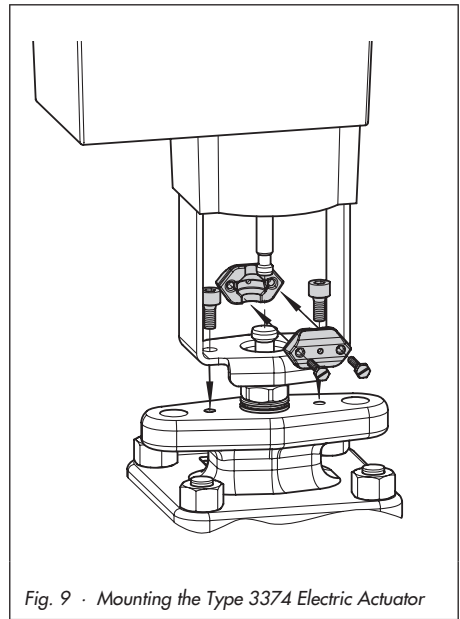

Fig. 9 · Mounting the Type 3374 Electric Actuator
**Type 3374 Electric Actuator (Fig. 9)**